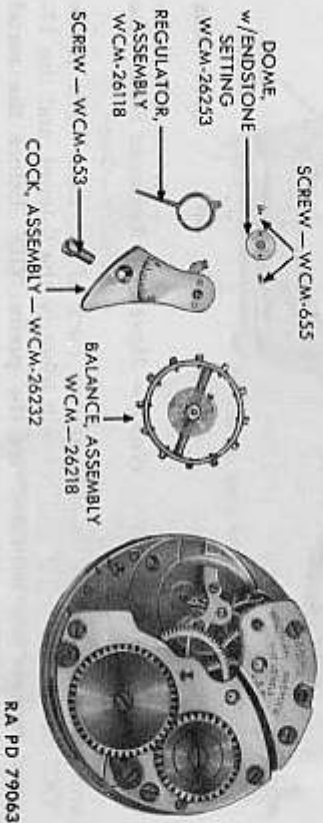

Figure 157 — Waltham Wrist Watch — Balance Cock and Balance Assembly Removed
- h. Remove Balance Cock and Balance Assembly (fig. 157). Invert movement on movement block, train side up; loosen hairspring stud screw with a small screwdriver and free stud from balance cock. Remove balance cock screw and balance cock. If balance cock is tight, insert a screwdriver in slot underneath cock and pry it loose. Remove balance assembly with tweezers. Secure stud screw to avoid losing it. Invert balance cock on bench and remove upper balance end stone cap assembly screws, thus permitting removal of end stone cap assembly setting and regulator assembly.
**i. Replace Balance and Balance Cock Assembly (fig. 157).** This procedure is identical with that described in paragraph 57 i.